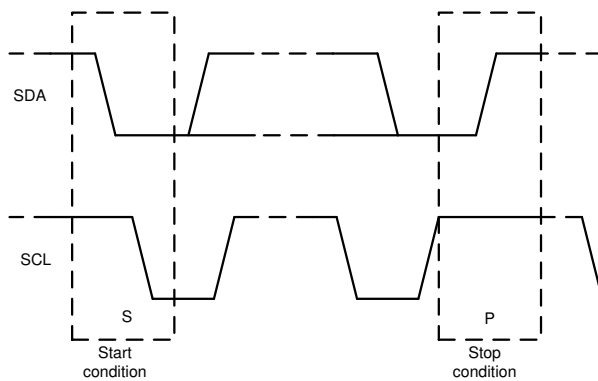

图 8-4. Start and Stop Conditions
1. The master initiates data transfer by generating a start condition. The start condition is when a high-to-low transition occurs on the SDA line while SCL is high, as shown in 图 8-4. All I2C-compatible devices recognize a start condition.
4. To signal the end of the data transfer, the master generates a stop condition by pulling the SDA line from low-to-high while the SCL line is high, as shown in 图 8-4. This action releases the bus and stops the communication link with the addressed slave. All I2C-compatible devices recognize the stop condition. Upon receipt of a stop condition, the bus is released, and all slave devices then wait for a start condition followed by a matching address.